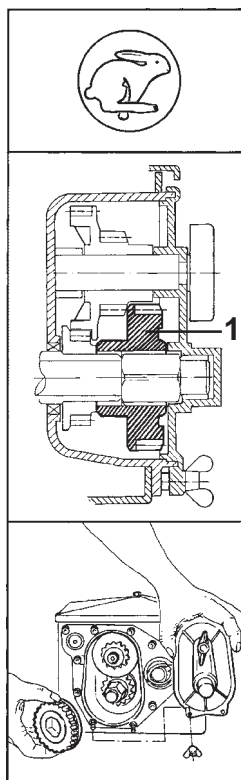
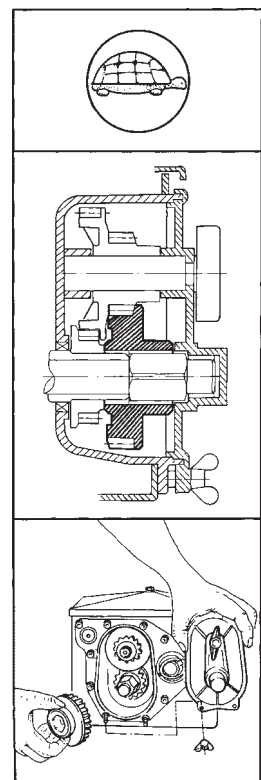

Fig. 7.10
Fig. 7.11
The two cogs inside the gearbox (7.8/1) provide two ratios: "high" or "low". The setting range of the setting scale (7.8/2) is enlarged. By turning the cog (7.10/1) "fast speed" range (Fig.7.10), alternatively a "slow speed" range (Fig.7.11) can be set.
- Remove the cog (7.10/1) from the shaft, turn it and reinsert it according to Fig. 7.11 . If the pinion cannot be pulled off the shaft by hand, move the drive wheel until the cog can be removed easily from the shaft.